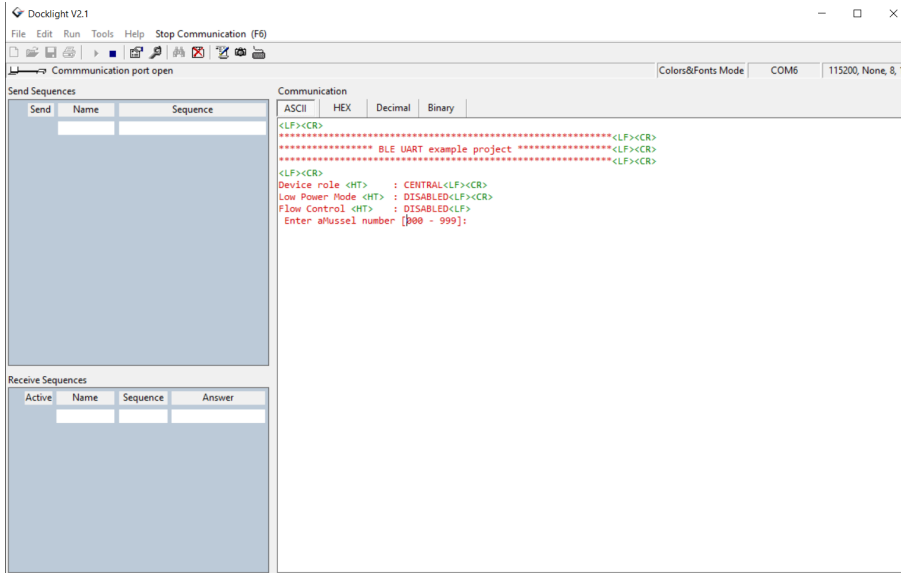

Figure 1.4: BLE bridge status
4. When connected to BLE dongle, you should see the output in your serial communication program as presented in Figure 1.4. If the output is not